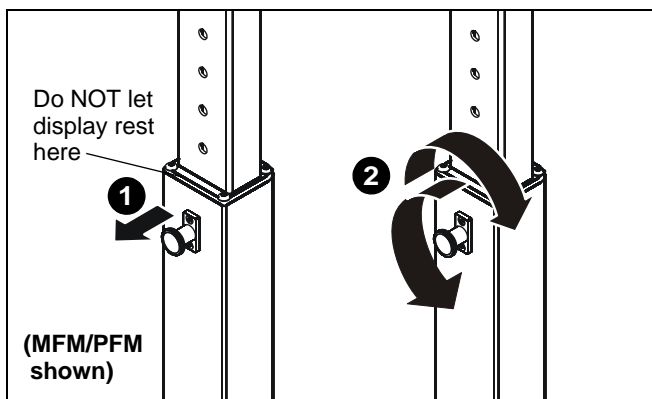

Figure 6
2. Raise or lower the center post, then turn the knob 90° either direction to engage the knob and lock the cart at desired height. (See Figure 6)
IMPORTANT ! : Set the height of the cart so the display does NOT rest on the lower part of the center post. (See Figure 6.) Always set the height so the knob is engaged in a hole in the center post.